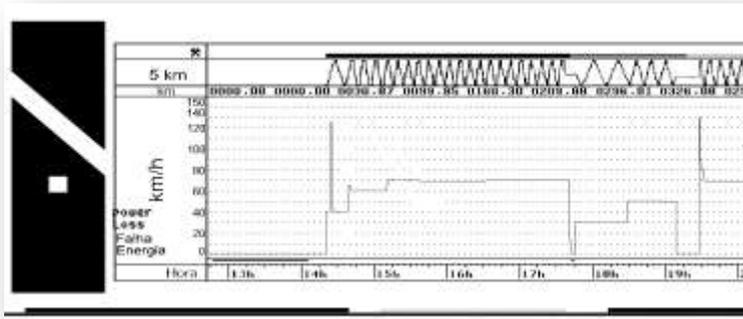

Figure 2.5.2.2.1
- k. Driver ID: The identification is nothing more than the record of the national driver's license. Thus, in the inspection, the driver must present its Driver's license and information should be the same. In figure 2.5.2.1.1 the driver —— (3) was the last to be identified and have led the vehicle in the last 24 hours and the driver——(1) was the first to be identified and have led the vehicle in the past 24 hours.
The vehicle's operation information, printed on the diagram tape is according to Fig 2.5.2.2.1